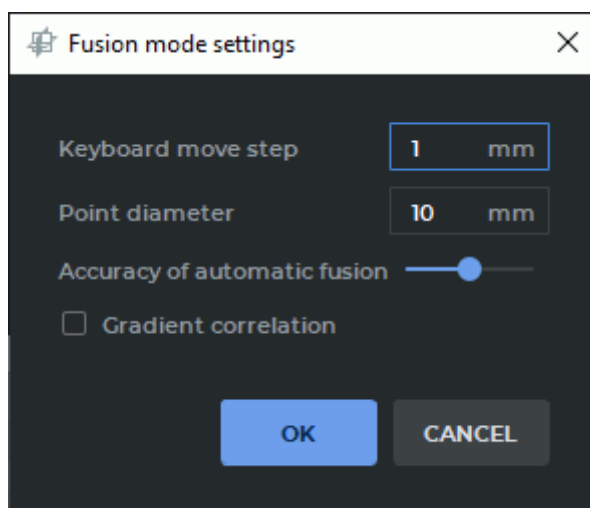

Figure 4.4: Layer fusion mode settings dialog
To customize the fusion mode settings, click the **Options**  button on the **Fusion of layers** panel. The respective dialog box is shown in Fig. 4.4.
4. Merging quality can be poor if the tissue density on the merged layers is very different. In this case, check the **Gradient correlation** box on the **Fusion mode settings** dialog (see Section 4.3, Fig. 4.4) and repeat steps 1-3.
5. To change the merge accuracy, move the **Accuracy of automatic fusion** slider on the **Fusion mode settings** dialog (see Section 4.3, Fig. 4.4). Move the slider to the right for maximum quality. High accuracy requires more time to merge.
5. To set the displacement step, set the desired value in the **Keyboard move step** field of the **Fusion mode settings** dialog box (see Section 4.3, Fig. 4.4).
11. To change the point diameter, open the **Fusion mode settings** dialog (see Section 4.3, Fig. 4.4). Set the diameter of the points.